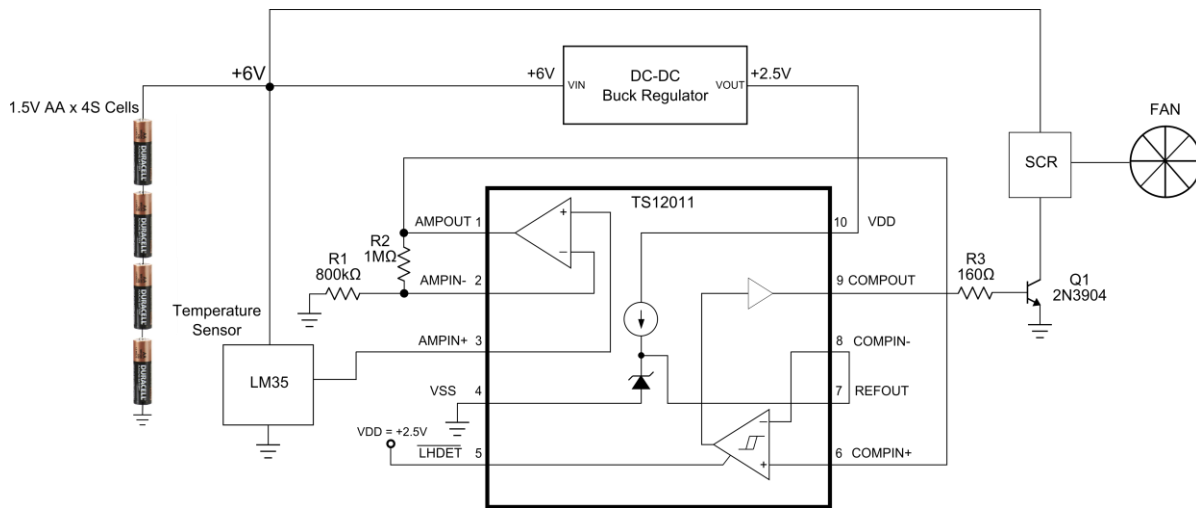

Figure 1. TS12011 Temperature-Controlled Fan Circuit
A temperature-controlled fan application circuit can be designed using a single analog IC, such as the Touchstone TS12011 IC as shown in Figure 1. The IC is powered from a 2.5V voltage from a buck converter that can also be used to drive other important ICs such as a microcontroller. The buck converter input voltage is 6V and is generated by four 1.5V AA batteries. Furthermore, the batteries power any LM35 temperature sensor and a silicon-controlled rectifier (SCR) to control fan operation. The temperature sensor provides an output voltage that is linearly proportional to ambient temperature in Celsius. For every one (1) degree Celsius increase/decrease in temperature, the temperature sensor’s output voltage increases/decreases by 10mV.